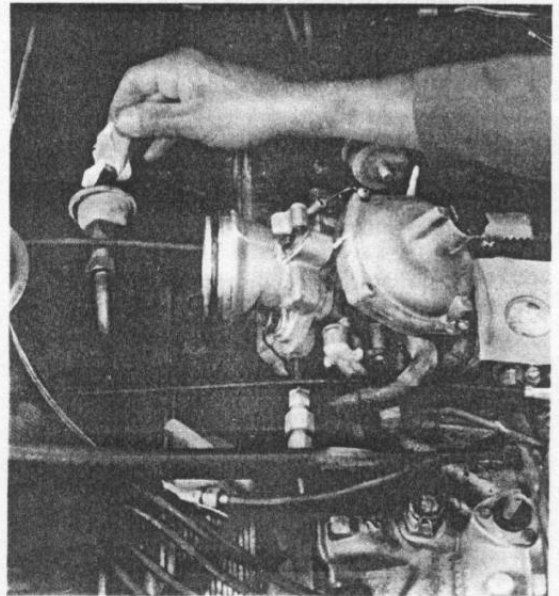

FIG. 94
23. Unseal and refit the rubber hoses to the pulse air system **Fig. 94** and the CO reading should fall to between 1 and 1½%.